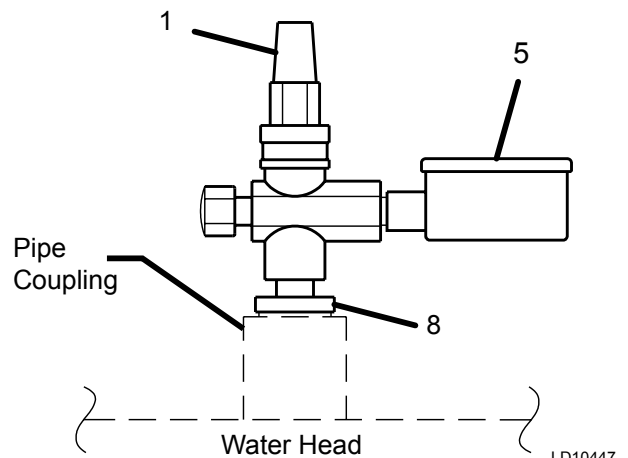

FIGURE 2 - WATER BOX CONNECTIONS
5. Install fittings on water box vent connections as shown in FIGURE 2.